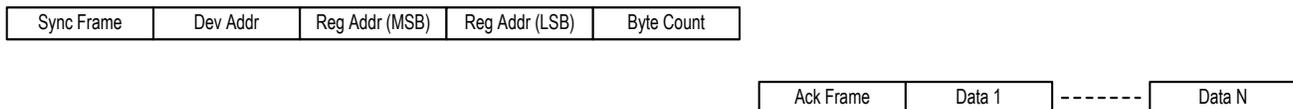

Figure 27. UART Read Protocol Format
The UART read protocol consists of 5 bytes (Figure 27). The LSB of the device address frame is 1. The addressed device responds with an Ack frame followed by one or more data bytes if no errors are detected, and the transmission is valid. The byte count indicates the number of data bytes to be read (N). This must be a non-zero number.